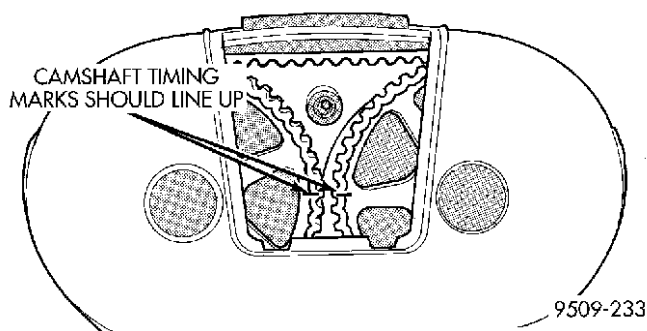

Fig. 42 Camshaft Timing Check
- (4) Check the timing marks on the camshaft sprockets, they should align with each other (Fig. 42).